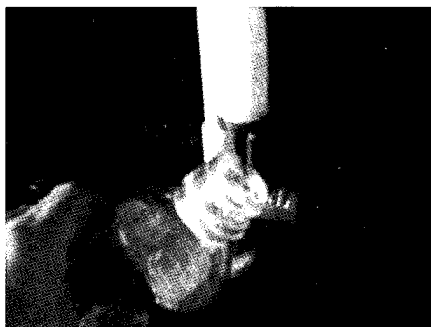

Figure 3. Collecting sample
2. Collect the water sample in a clean 500-mL plastic container with cap. The water sample must be taken with extreme care to minimize contact of the sample with air. It is therefore desirable to let the water run down the sides of the container. See Figure 3.